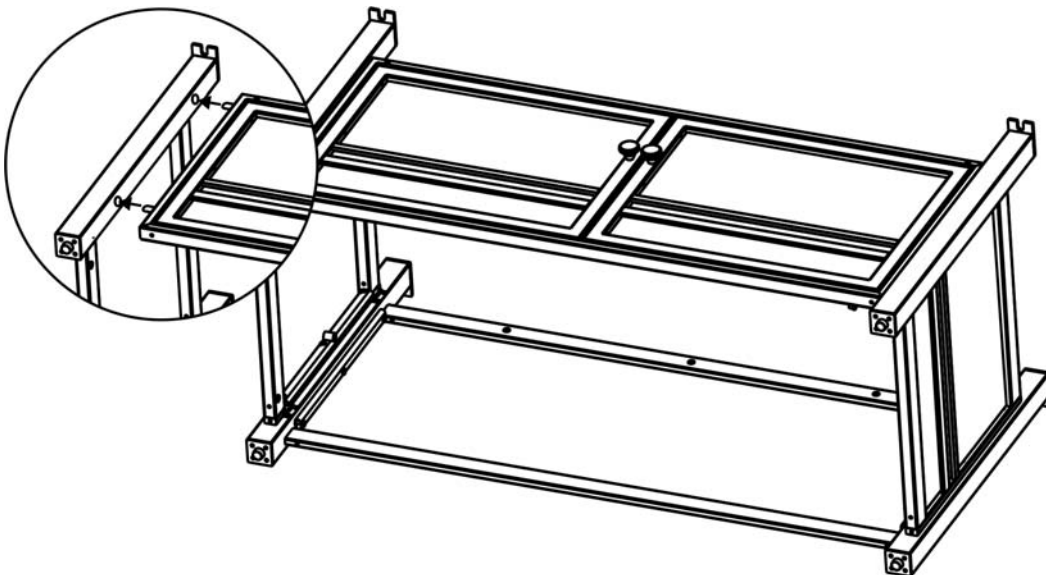

Figure 3
3. Assemble the door panel to the back panel as shown in Figure 3.